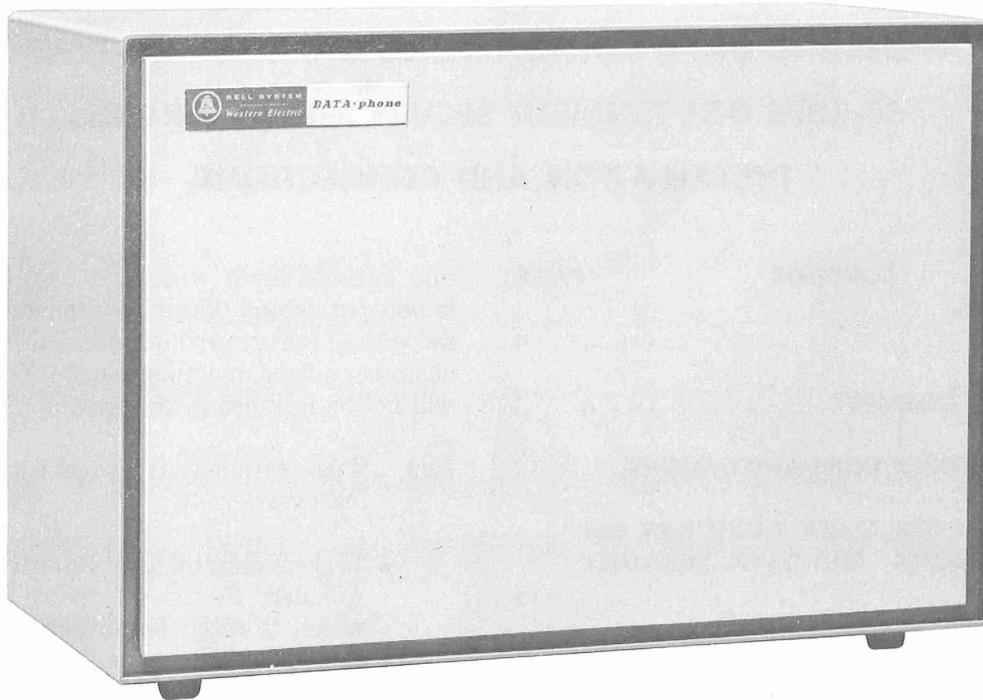

Fig. 1—Wideband Data Station Cabinet
2.01 This part describes the physical assembly of a wideband data station (Fig. 1) using Data Set 303-type with data recognition for either restored polar or dc-coupled balanced line signals.